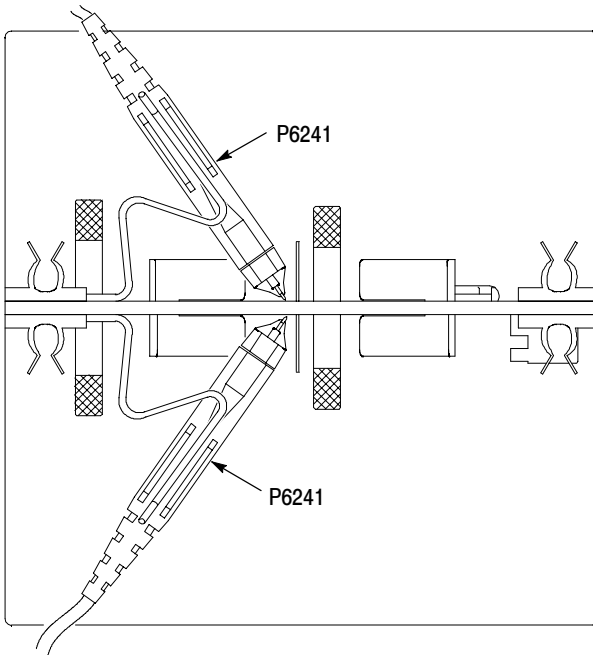
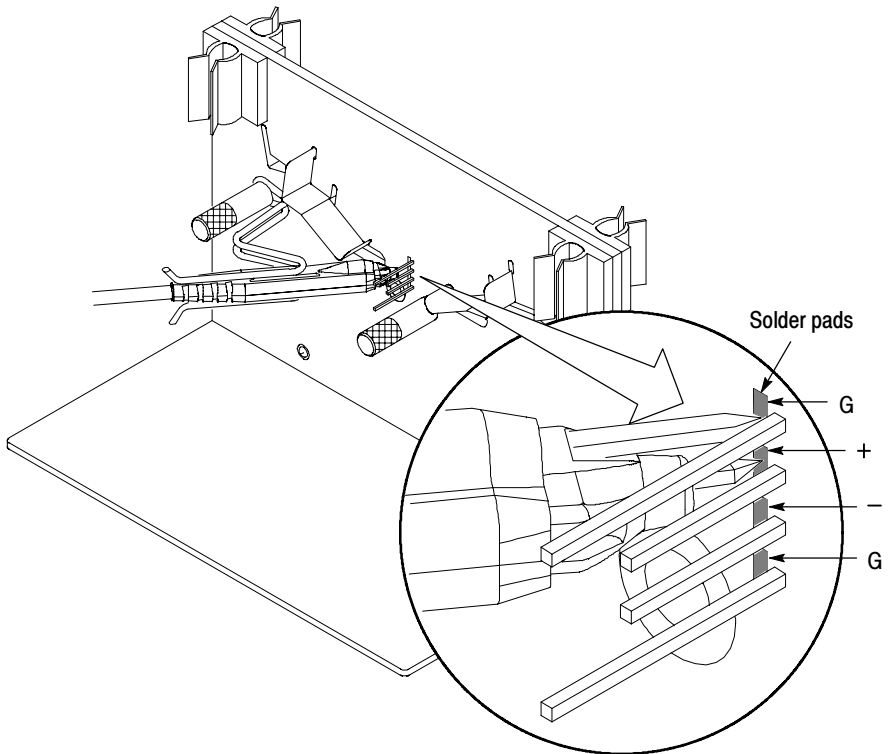

Figure 4: Deskew fixture connections (two P6241 probes shown)
Figure 5: Detail of deskew fixture connections
3. If you have the optional deskew fixture, connect it to the PROBE COMPENSATION connections. Connect the probe to the deskew fixture (see Figure 4 on page 20), and proceed to step 6.
The optional deskew fixture (Tektronix part number 067-0484-00) provides a convenient way to connect the probes in your system to the calibration signal for deskewing. The deskew fixture is configured to allow you to connect different probe models to the system. Refer to Figure 4 to see how two P6241 probes are connected. Figure 5 provides an enlarged view of the deskew fixture connections.